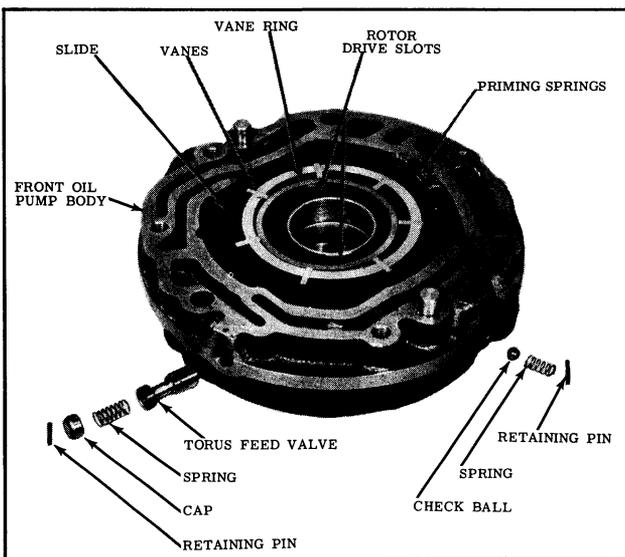

Fig. 3-105 Front Oil Pump
8. Install the rotor into the pump with the drive slots facing up. (See Fig. 3-105)
11. Install torus feed valve, spring, cap and retaining pin. (See Fig. 3-105)